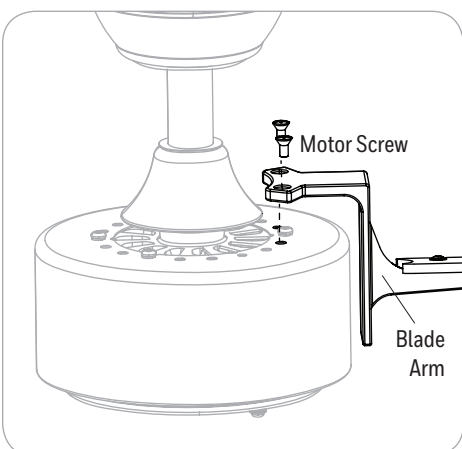

Figure 2.13
13. Secure the blade arm to the top side of the motor assembly using the previously removed motor screws. Repeat for the remaining blade arms, making sure to completely secure each blade arm before proceeding to the next (Figure 2.13).